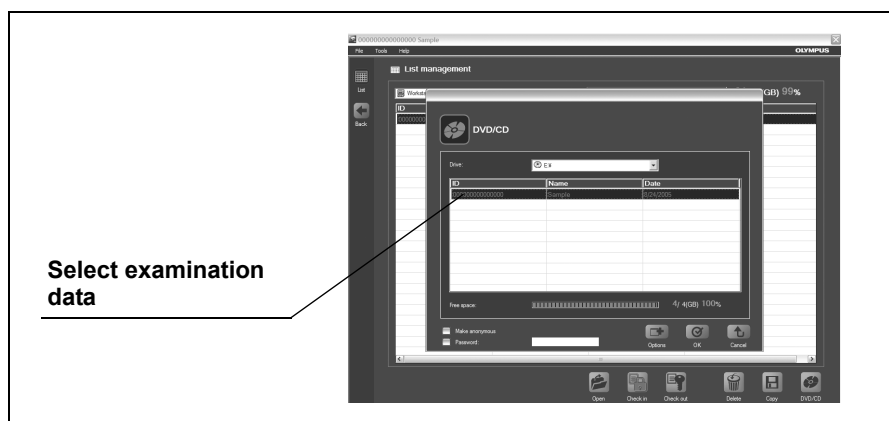

Figure 6.96
3. The selected examination data which you wish to write is displayed (see Figure 6.96).